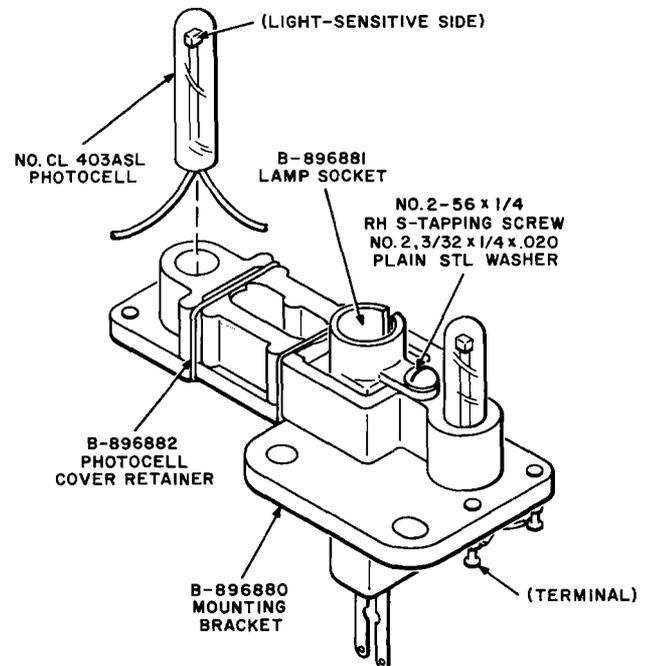

Fig. 24 — End-of-Tape Sensor Assembly — Partially Exploded View
(2) To replace photocell, unsolder the two leads from terminals on the back of the mounting bracket (Fig. 24); pull photocell from the hole in the mounting bracket; insert leads of new photocell through slot in bottom of hole so that the light-sensitive side of the photocell will face the other photocell; seat photocell into hole taking care not to kink the leads; insulate each lead with the No. 22 AWG Teflon tubing; and solder the leads to the appropriate terminals.